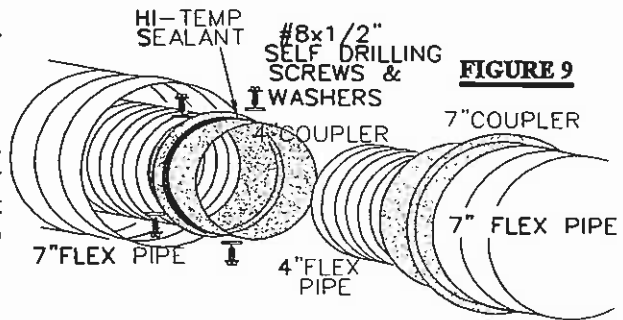

FIGURE 9
5. If more than one length of liner needs to be used to reach the fireplace, couple them together as illustrated in FIGURE 9. Seal the joints using the same procedure as described in points 2 and 3. The vent system must be supported every 3 feet, for both vertical and horizontal runs. Use Napoleon support GA-GD-010.370 or equivalent non-combustible strapping to maintain the 1" clearance from combustibles.